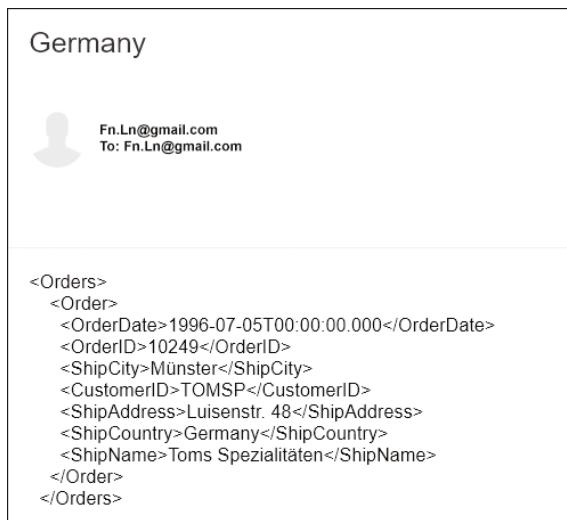

Figure 6.15 Email with Subject Germany
9. Check in your mail Inbox for the received message. It should look similar to that shown in Figure 6.15.